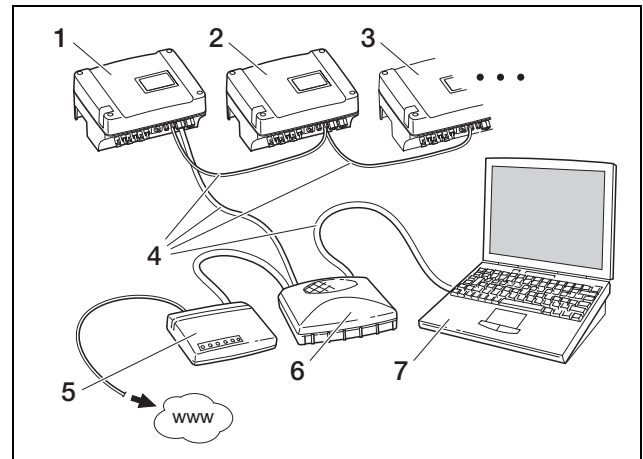

Fig. 54: Network settings with automatic network configuration for an external DSL router (☒ Auto IP/DHCP, ☒ external router)
- The "Auto-IP/DHCP" option is suitable for most applications (figure 54).